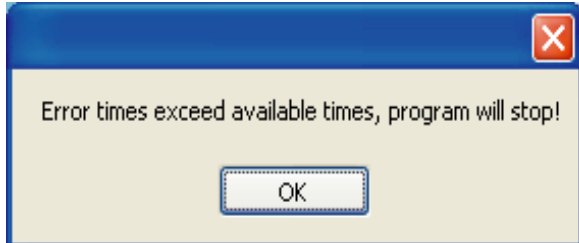

Fig.4-5
7) In case the password error time exceed 6 times (i.e. the 7th times password error), the window show as Fig.4-5, and then click OK, it will exit the program.